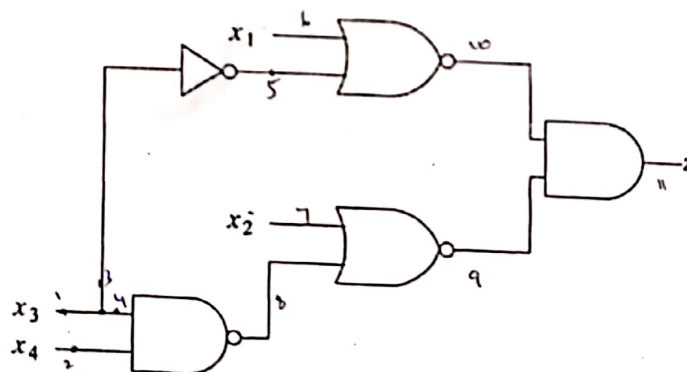

Figure 1
2. Answer the following questions for the circuit shown in Figure 1: (10 Marks)
3. For the circuit in Figure 1, (5 Marks)